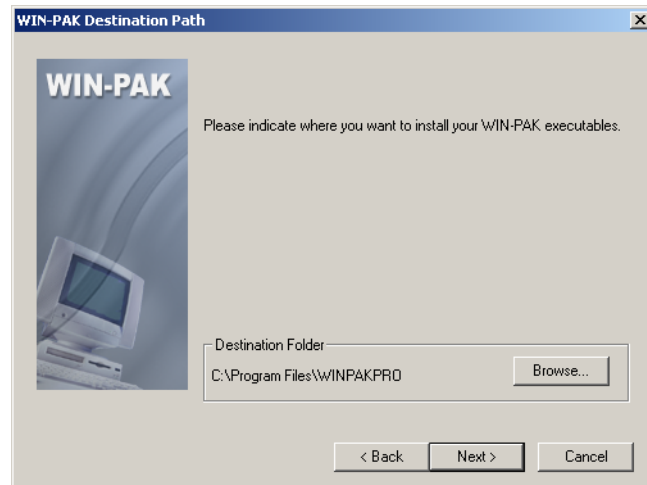

Figure 2-24 Choose Destination Path
1. On the **WIN-PAK Setup Type** dialog box, select **User Interface and Comm Server** and click **Next**. The system checks for SQL Service status and displays Figure 2-24.